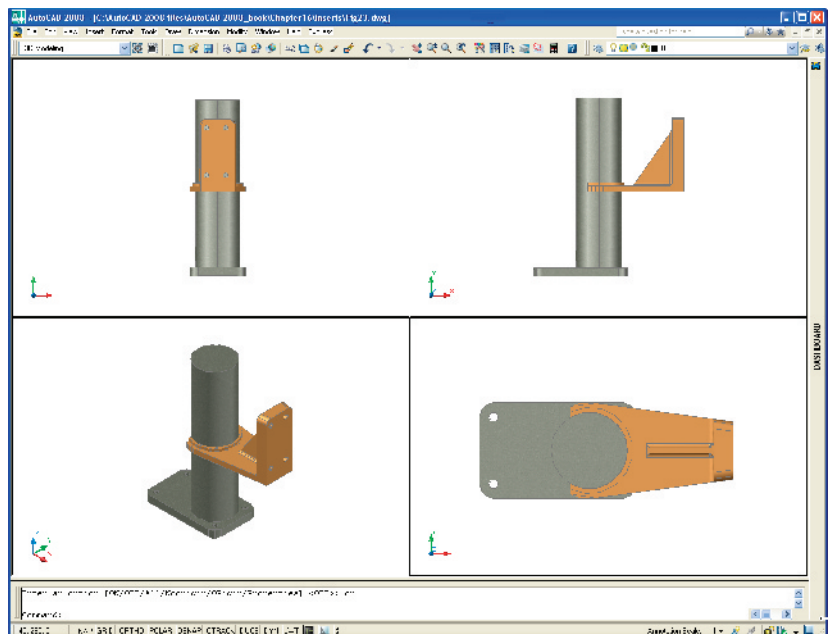

Fig. 16.28 Example – 3dorbit the example in a **Four: Equal** viewport layout
Example – 3D Orbit (Fig. 16.28)
7. Fit the 3D model into a **Four: Equal** viewports setting. Note that the **Visual Styles/Realistic** mode still shows in each of the four viewports (Fig. 16.28).